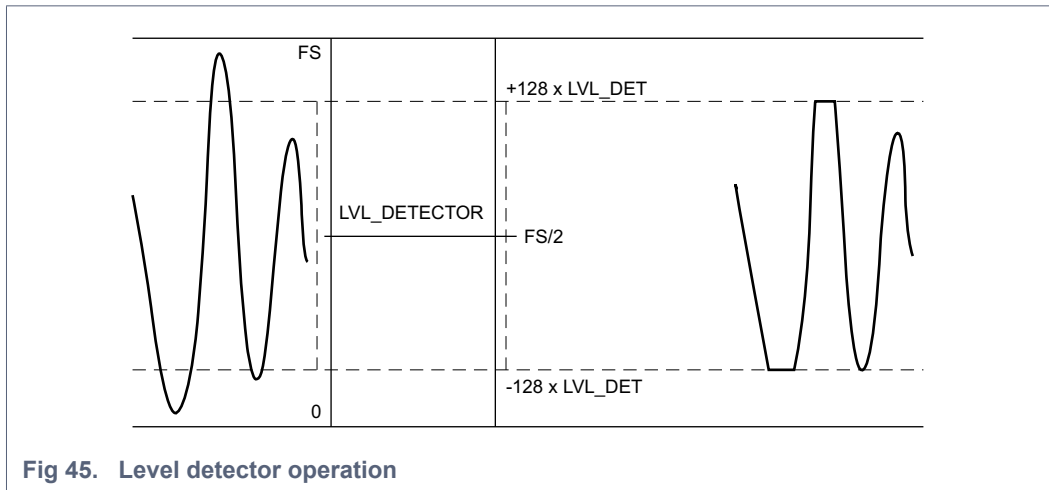

Fig 45. Level detector operation
A level detector feature is available at the end of the digital path. It can be enabled using bit XY_CLIP_LEV_EN. This feature specifies a signal output range limited (or clipped) to $-128 \times \text{LVL_DET_XY}$ to $+128 \times \text{LVL_DET_XY}$ around the half Full-Scale (FS). If the signal value enters the upper or lower clipping area, it is clipped to $+128 \times \text{LVL_DET_XY}$ or $-128 \times \text{LVL_DET_XY}$, respectively). Figure 45 shows this behavior.